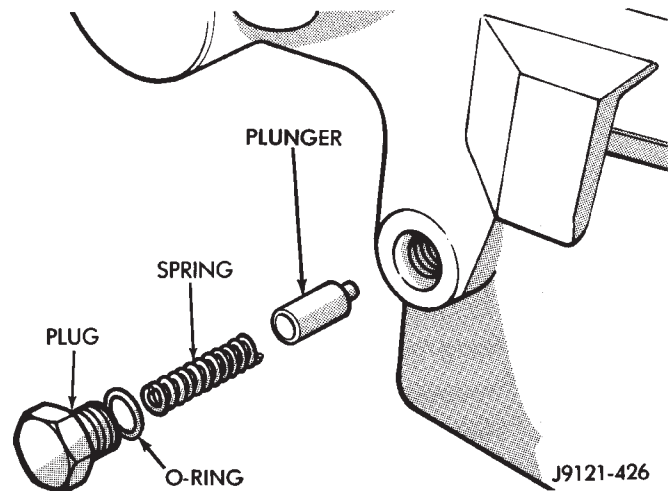

Fig. 22 Detent Component Removal
- (1) Remove shift detent plug, spring and pin (Fig. 22).